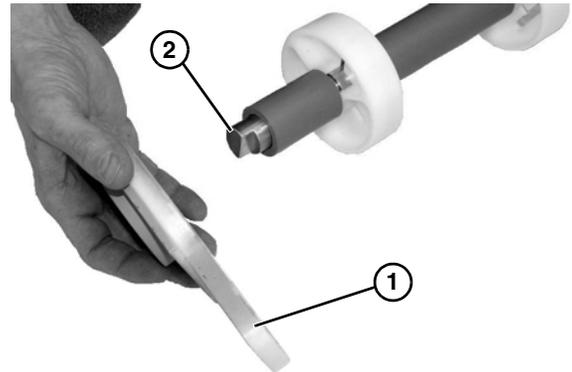

Figure 45
4. Slide off idler head plate (Figure 45, item 1) from shaft (Figure 45, item 2).